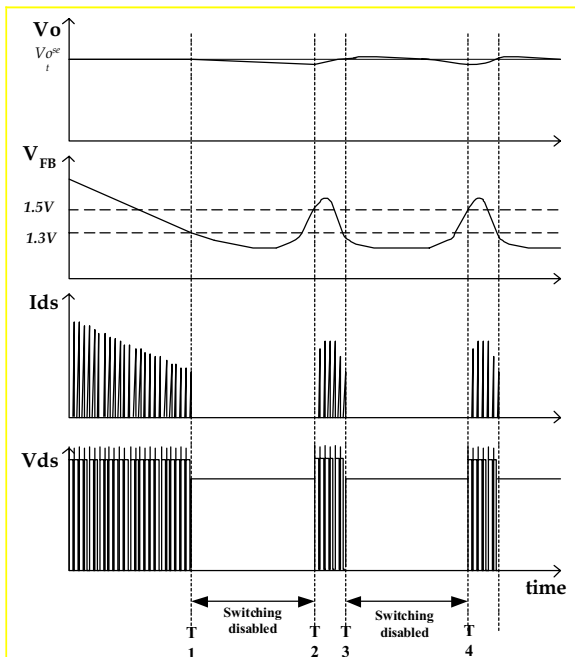

Figure 18. Burst-Mode Operation
5. Burst Operation: To minimize power dissipation in standby mode, the FSF-series enters burst-mode operation in PWM operation. As the load decreases, the feedback voltage decreases. As shown in Figure 18, the device automatically enters burst mode when the feedback voltage drops below V_{BURL} (1.3V). At this point, switching stops and the output voltages start to drop at a rate dependent on standby current load. This causes the feedback voltage to rise. Once it passes V_{BURH} (1.5V), switching resumes. The feedback voltage then falls and the process repeats. Burst-mode operation alternately enables and disables switching of the MOSFETs thereby reducing switching loss in standby mode.